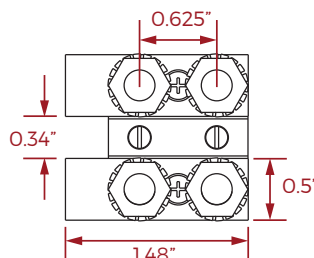

Figure 5. Input Bus Bar Detail
9.2 Input Connections. See Figure 5. The DC power inputs to the distribution panels are made by means of crimp type lugs or direct connection to 1/4-20 studs to two copper bus bars on side A and side B. The upper bus bar is the battery connection and the lower bus bar is the return.